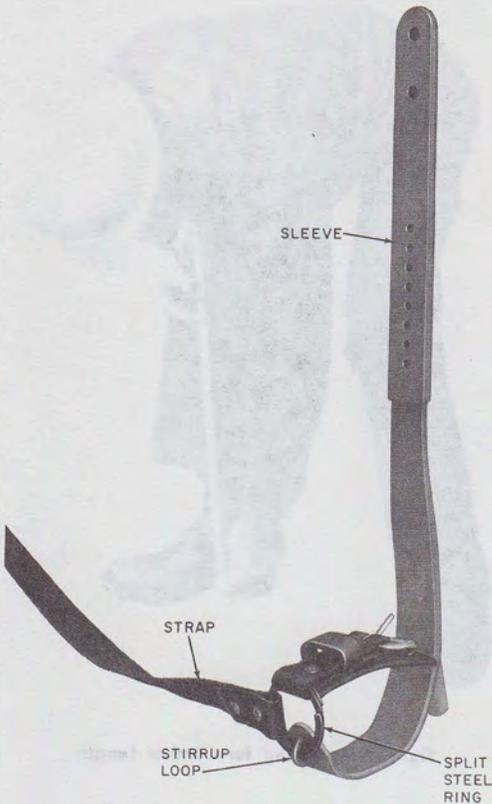

Fig. 5—Foot Straps Attached to Climbers
**2.10** The foot straps are attached to the climber so the buckle assembly will be across the foot instep when fastened. Figure 5 shows the foot strap on the climber.